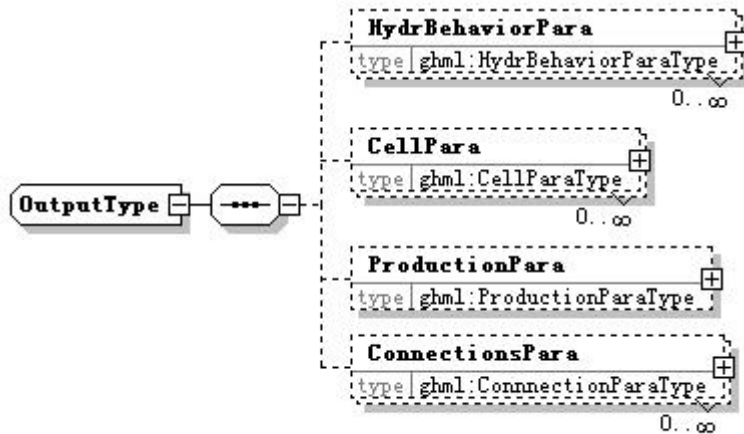

Figure 14. OutputType
- **OutputParameter[ghml:OutputType]** describes output parameters of the model (Figure 14). This element includes for complex sub-elements: